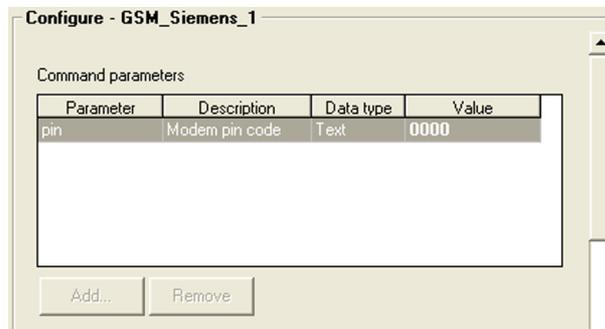

Figure 142 Entering Default PIN Code
- Set the PIN code default value, if any, in the **Command parameters** frame, parameter **pin**. See Figure 142 on page 302.